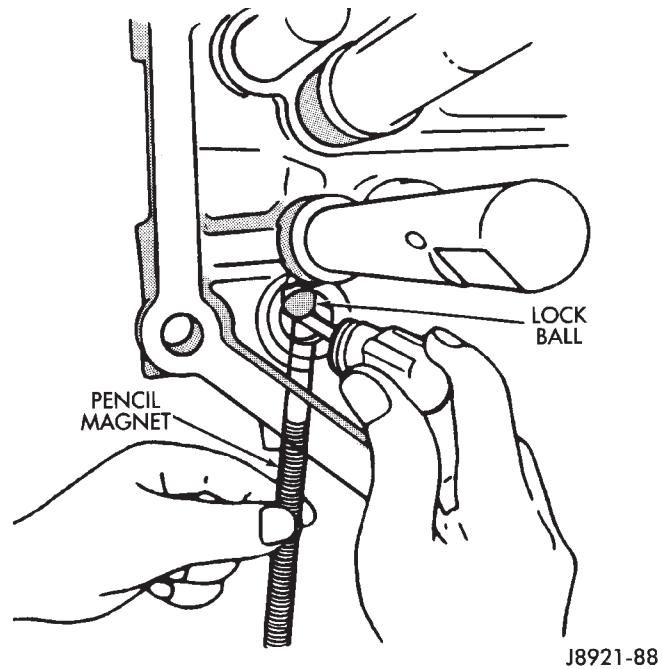

Fig. 88 Lock Ball Installation
(17) Install shift rail lock ball with pencil magnet and screwdriver (Fig. 88).